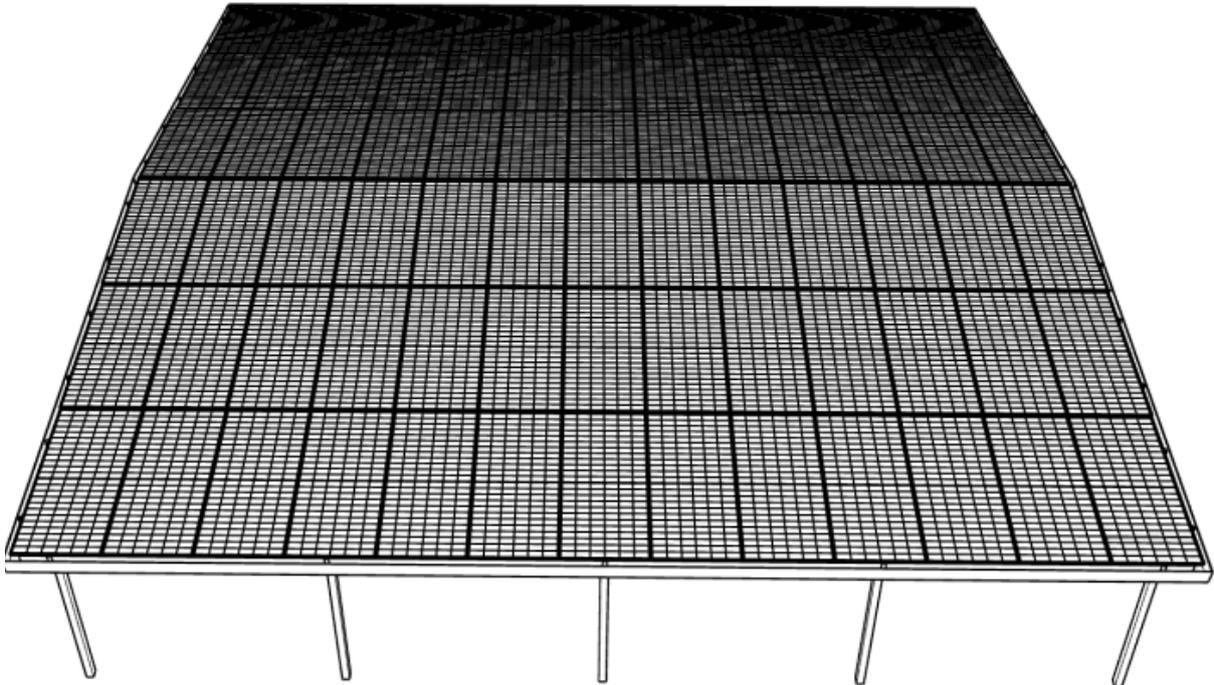

FIGURE 28
- Install row by row until the entire roof is completed (Figure 28). The top row of products does not need to be adhered with waterproof strip.